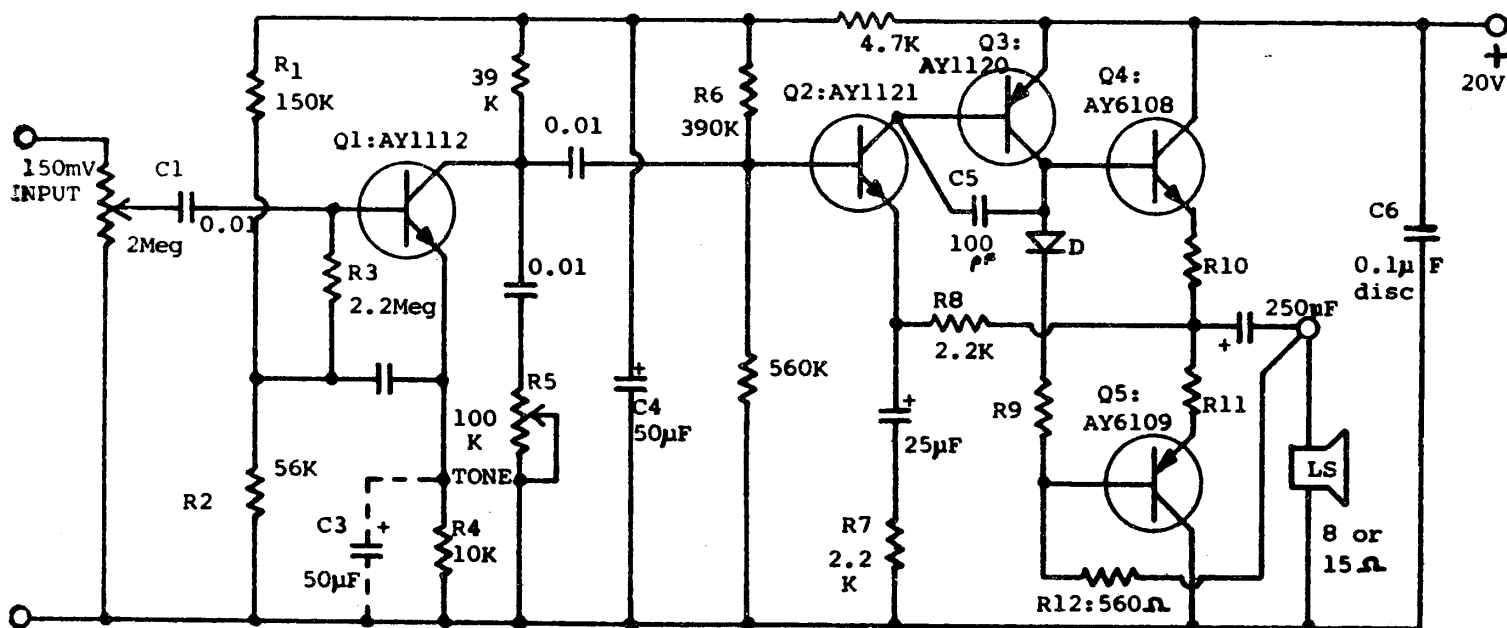

FIG. 7: Maddever/Gunther modification of circuit of Refs 6 & 7; improvement of fig. 4 here.
R. S. Maddever has built the amplifier from Ref. 7c which adds a pre-amplifier to Fairchild's "Low Cost Amplifier" but has incorporated the above improvements in principle, with added bias (adjustable) and stabilisation. This is shown in fig. 7. D is any silicon diode, and R10 = R11 = a few ohms
From all of this it will be evident that this description applies to a stereo sound system, where the circuits of amplifier and preamplifier are duplicated, with the addition only of a balance control between them [see p. 26]. The preamplifier has been described in the March EEB, and the power amplifier will be discussed in the July issue. In interim, however, a quite suitable power amplifier circuit would be that appearing as fig. 7 on p. 71 of this issue, omitting the first stage.